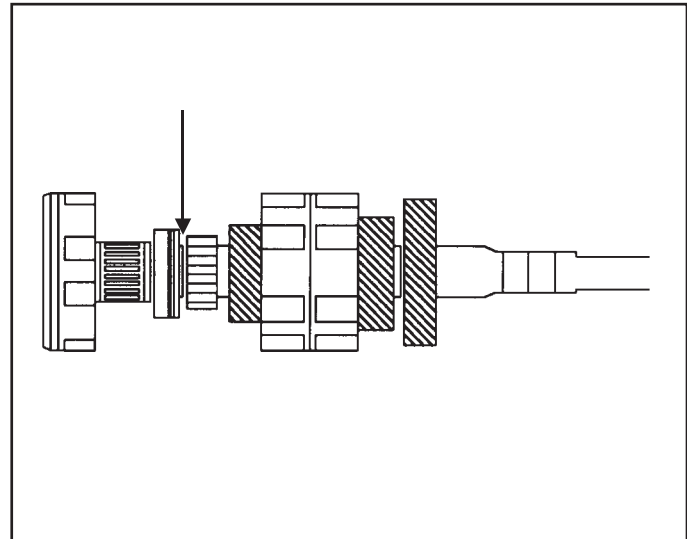

Figure 132
24. Using a feeler gauge, check the clearance between the 2nd/Rev drive gear and the 2nd/Rev thrust bearing (See Figure 132). The clearance should be: